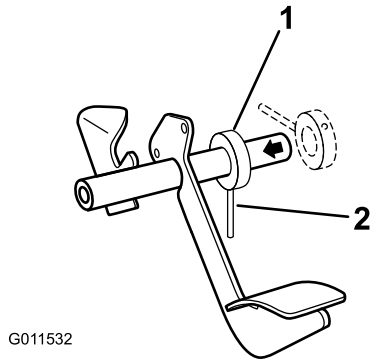

Figure 7
4. Install the collar assembly onto the pedal assembly and slide it toward the pedal arm (Figure 7). Let the collar hang at this time.